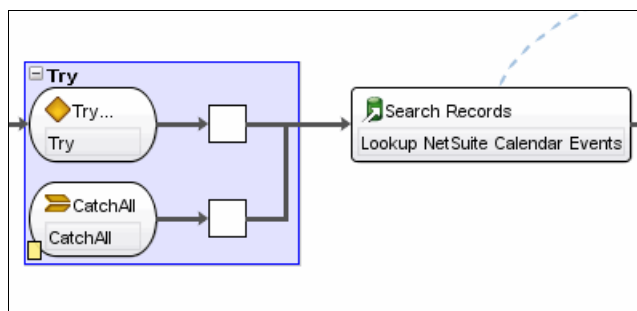

Figure 11-35 Adding a Try activity to the orchestration
1. From the Logic section of the Activities tab, drag a Try activity to the left of the Search Records (Lookup NetSuite Calendar Events) activity, as shown in Figure 11-35.